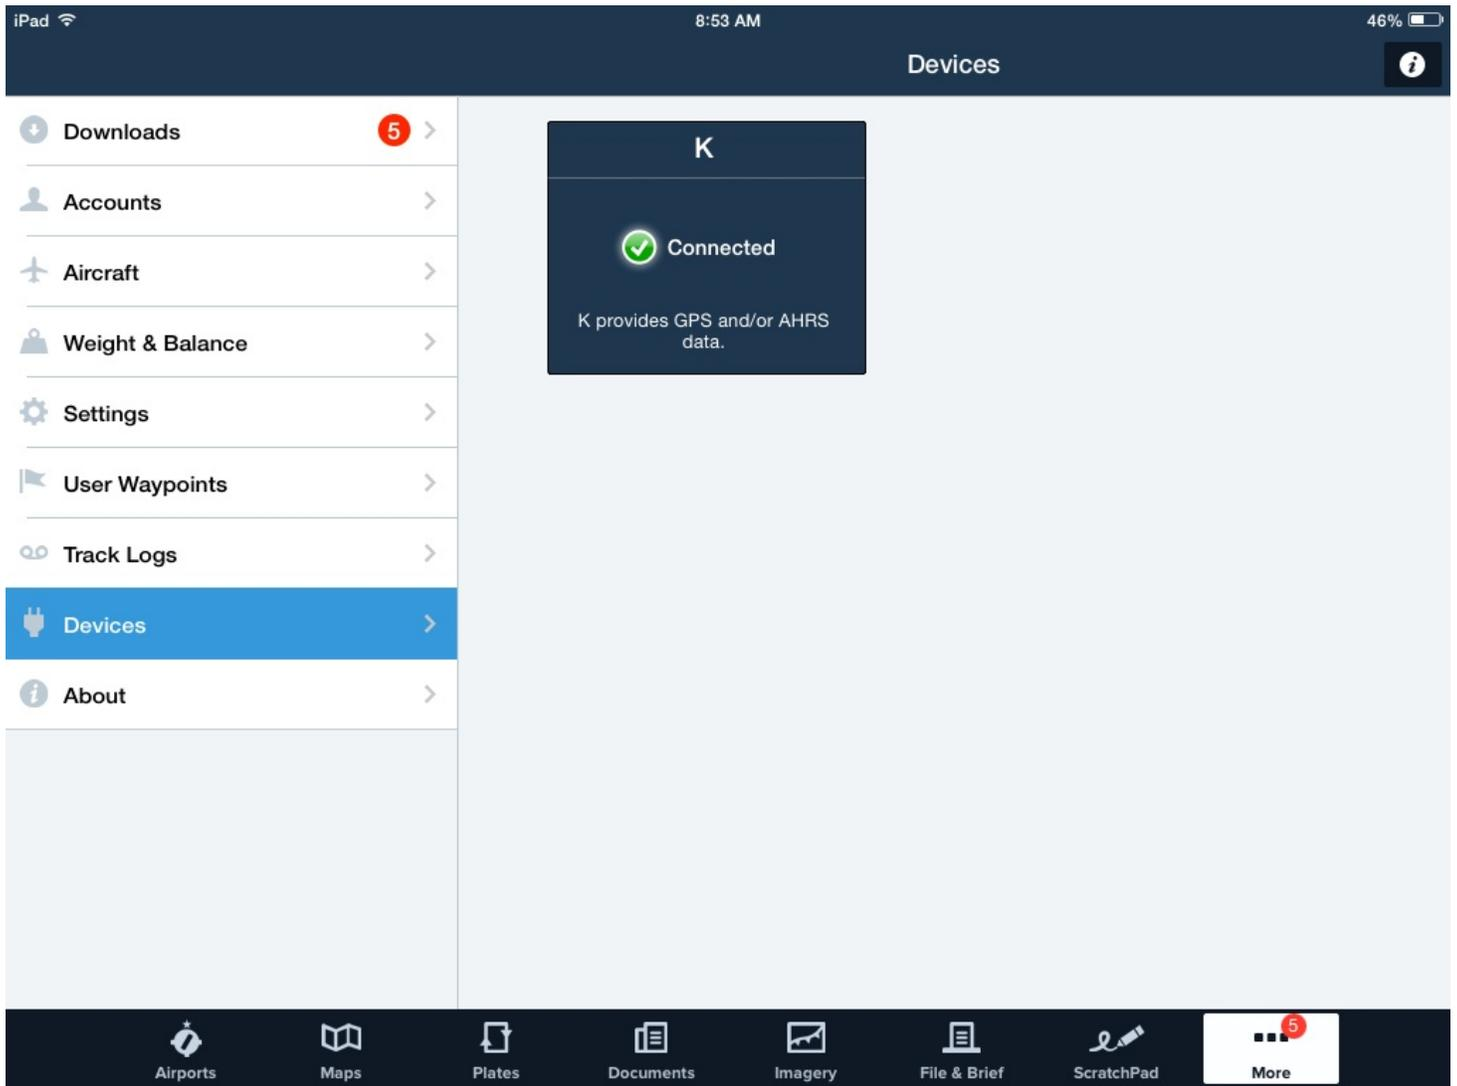

Figure 6.3: The ForeFlight settings after connecting to X-Plane
8. If your devices are configured per the above steps, you should have a small square labeled “K” in the Devices window of ForeFlight. This represents X-Plane. Tap the square and move the “Enabled” slider to the right, then tap **Devices** to go back to the previous screen, which is shown in Figure 6.3.
9. At this point, X-Plane and ForeFlight should be communicating, so if you tap the **Maps** button in ForeFlight, you will be able to track your aircraft’s location. By tapping on a particular airport (or by looking it up in the **Airports** section of the app) you can get information such as radio frequencies that you can use in X-Plane. To center your the map view on your aircraft in the map screen, just tap the crosshairs button in the upper right corner of the screen, highlighted in green in Figure 6.3.